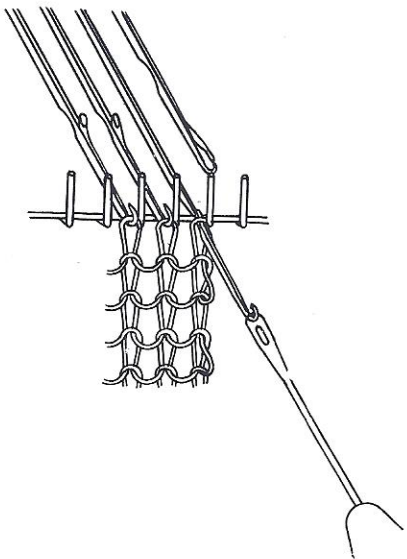
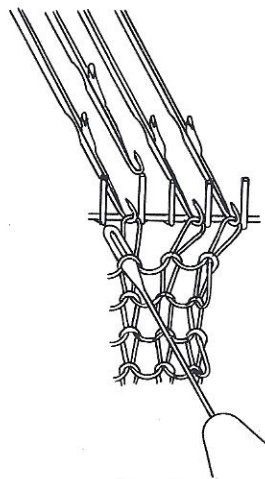

Fig. 11
Fig. 15
1. Hang the eye of the Remover ⑨ on the head of the Latch Needle as seen in Fig. 11 and Fig. 15, and pull out the needles.
4. In case of increasing the edge-loops of the sweater in usual, the third Latch Needle will become empty of the loop if the two edge loops are transferred. So pick up the third reverse loop by the Remover, and transfer it to the third Latch Needle. (Fig. 15).
To decrease the loops is the opposite procedures of increasing the loops. Hang the Remover to the third Latch Needle from the edge, and transfer the loop to the second needle. As two loops are hooked together by the second needle, remove them in one time to the third needle. Further transfer the first loop to the second needle, and the decrease of loop will be made. (Fig. 11 - Fig. 15).